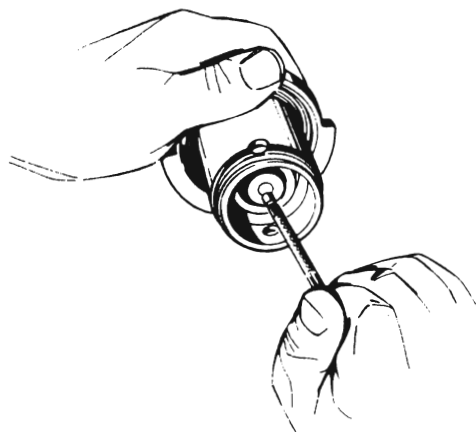

Figure 50-62 Removing Reaction Piston and Reaction Disc From Secondary Power Piston
8. Remove the reaction piston and reaction disc from the center of the secondary power piston by pushing down on the end of the reaction piston with a small object, such as a pencil, wooden dowel, or metal rod. See Figure 50-62.